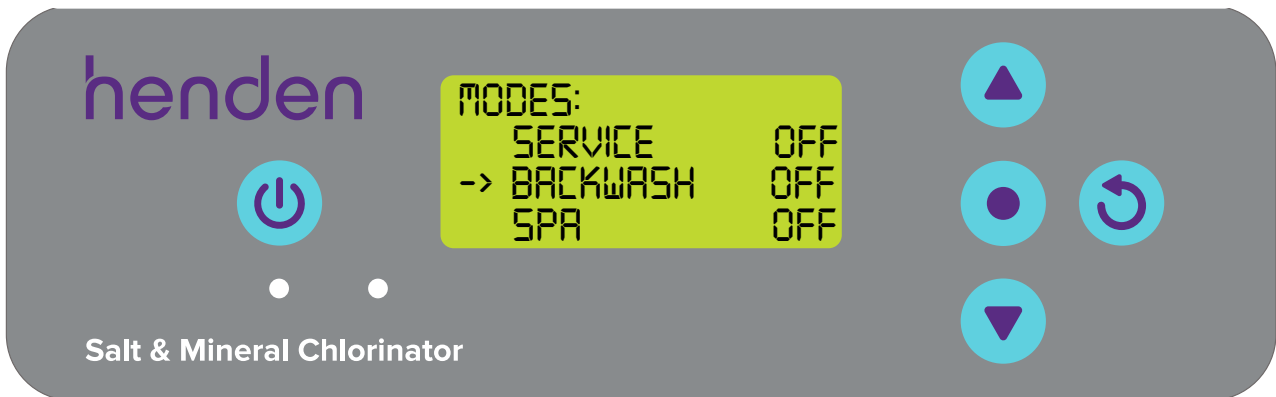

Figure 9.59
- From the **MODES** menu, use the   **menu up/down** buttons to scroll down to **BACKWASH** (refer Figure 9.59).